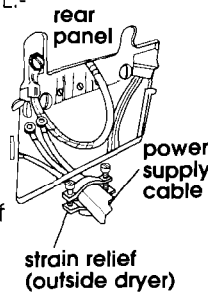

Figure 11
4. Attach 3/4" U.L.-listed strain relief (U.L. marking on strain relief) to the hole below terminal block opening (see Figure 11). Tighten strain relief firmly to cabinet so it is in a horizontal position. Place power supply cable through strain relief.